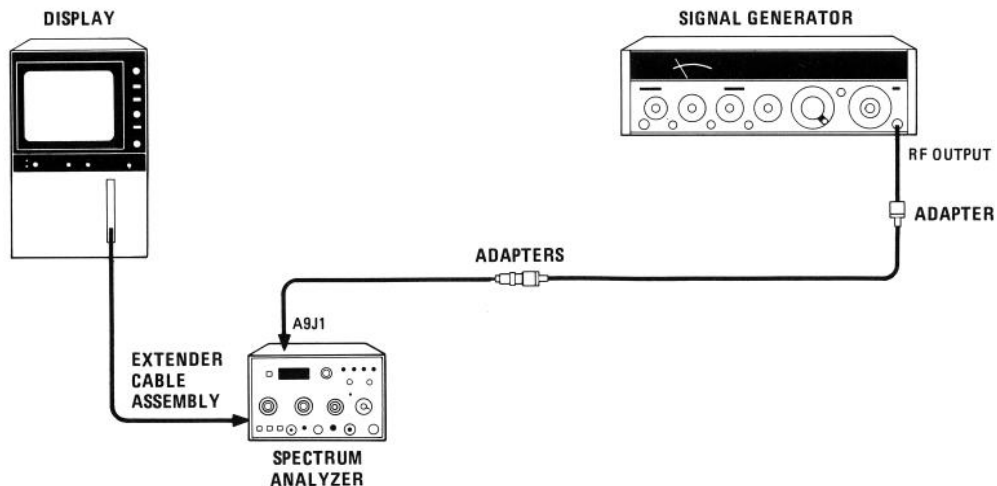

FIGURE 4-9. RESOLUTION BANDWIDTH ACCURACY TEST SETUP, 1 kHz TO 30 kHz
- 13. Connect equipment as shown in Figure 4-9. Remove W7P1 from A10J2. Connect signal generator through adapters to W7P1.